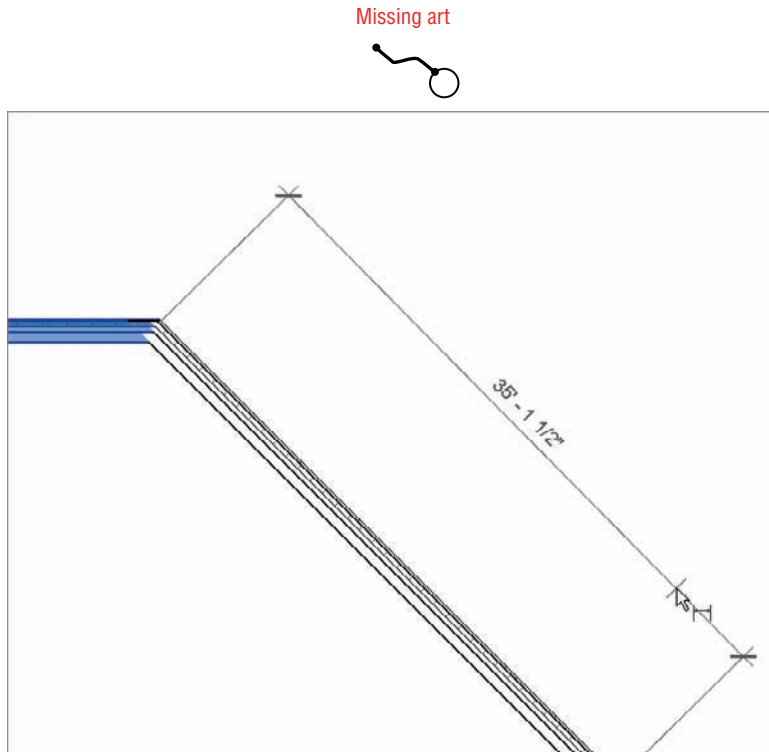

FIGURE 5.11 Picking the second point along the wall and placing the dimension
9. Hover your cursor over this core intersection, as shown in Figure 5.11.
12. Now the dimension is following your pointer. Pick a third point about 8' (2438mm) away from the angled wall, as shown in Figure 5.11.